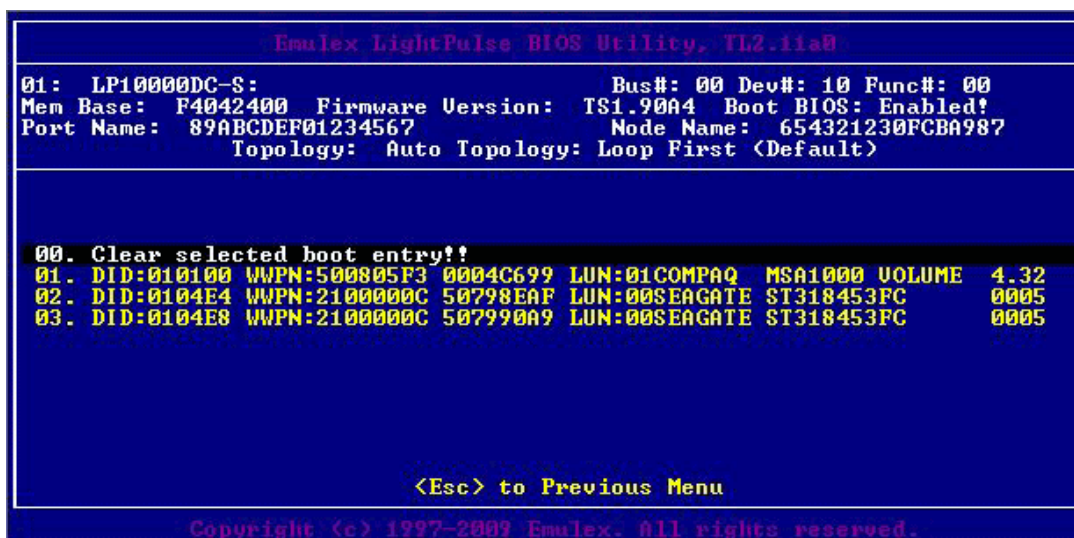

Figure 4-5 Device Selection List Example (Array) Screen
2. Select a boot entry. A screen similar to Figure 4-5 is displayed.